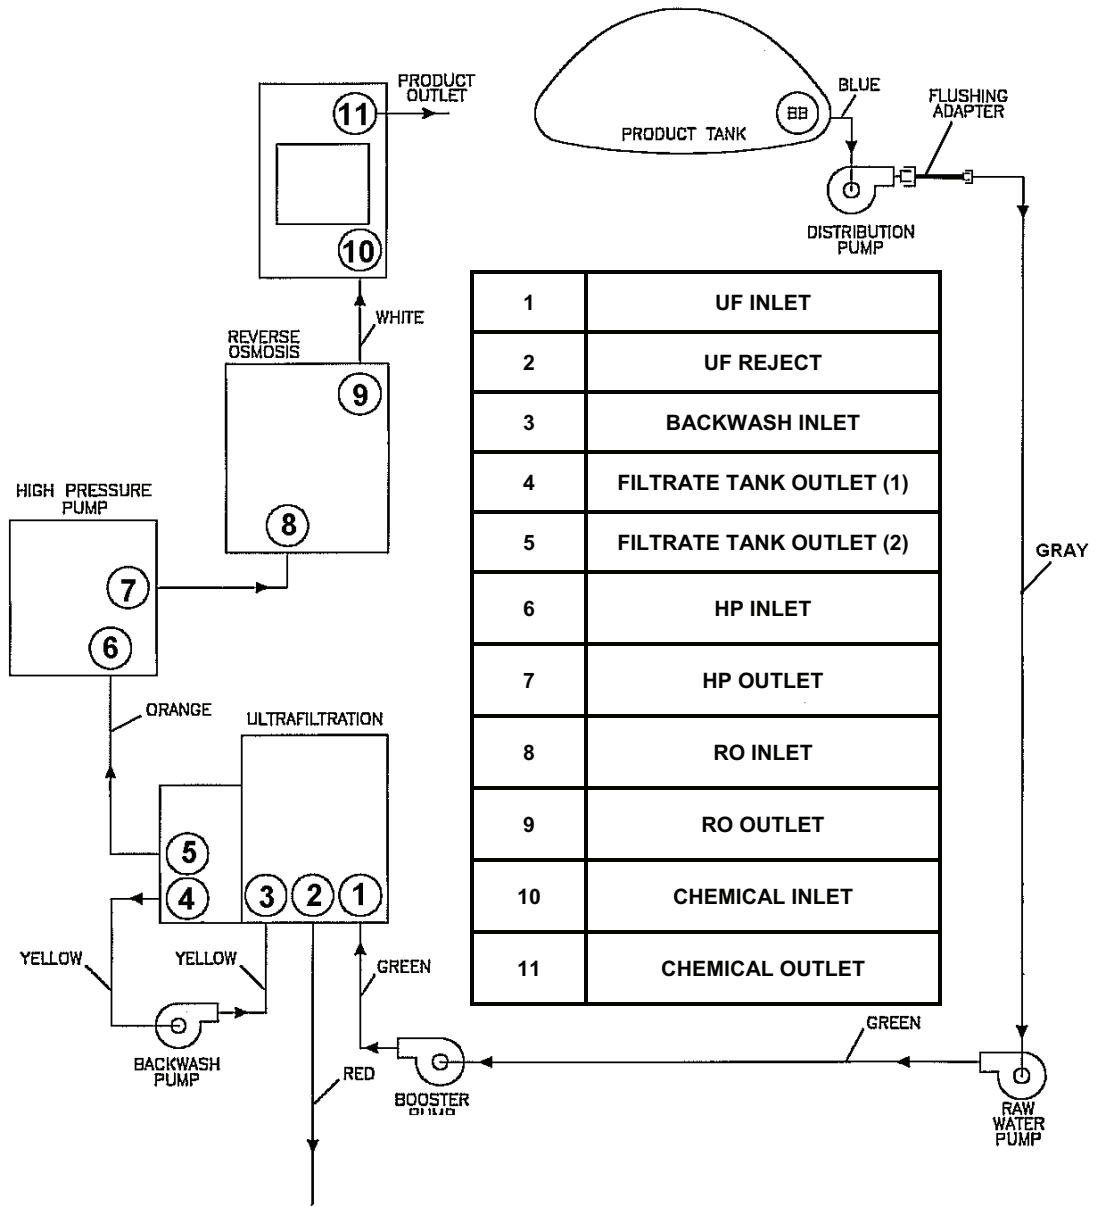

Figure 7. Product Flush Piping Layout.
21. Connect settling tank feed fabric hose (green) from the discharge of the raw water pump to the inlet of the booster pump. The setup should now resemble. See Figure 7.